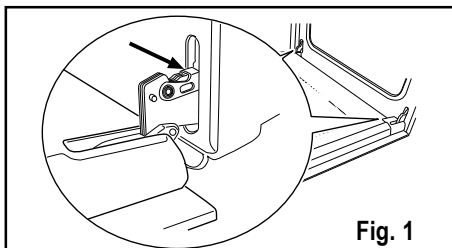

Fig. 1
2. find the hinges linking the door to the oven (Fig. 1);